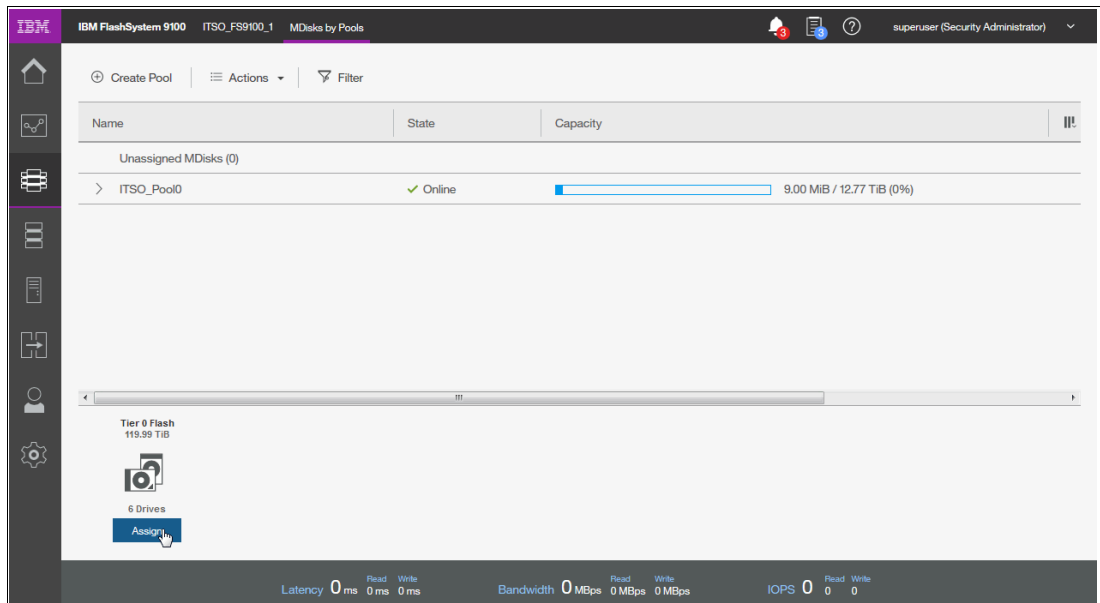

Figure 5-22 Creating an Mdisk
3. Select **Assign** to add the 6 NVMe drives to the storage pool, as shown in Figure 5-22.